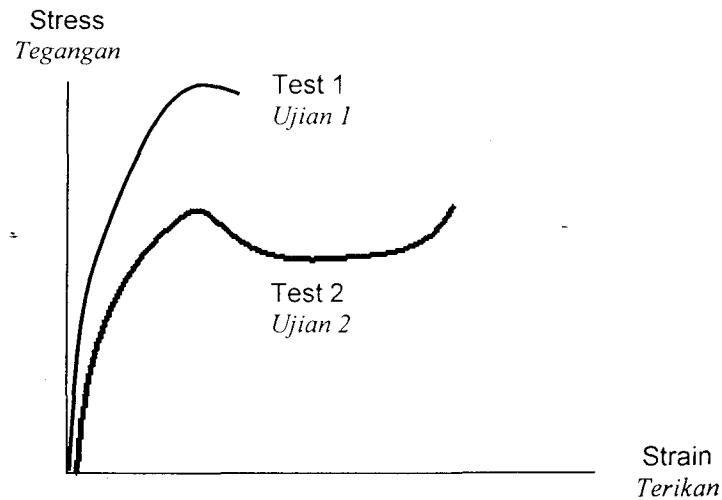

Figure 1
2. [a] Figure 1 represents the tensile test behavior of the same polymer at two different conditions.